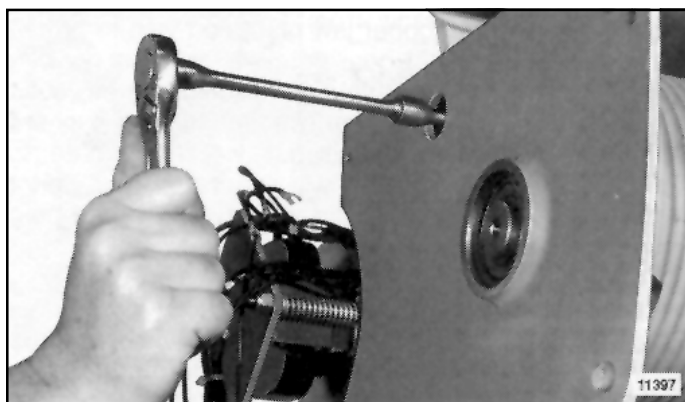

Figure 5-11. Removing Bolt Securing Gearcase to Frame
b. Remove four hex socket head bolts securing gearcase to cover. Three bolts are accessible from inside frame (Figure 2-2, Section II) and the fourth is accessible from electrical end of frame thru special access hole using a socket hex key wrench with an extension (Figure 5-11). With bolts removed, pry assembled gearcase and motor from frame. Exercise caution so that gearcase and motor assembly does not fall as it comes free of frame. This disassembly operation is not recommended with hoist suspended. Drum will remain in frame and can be lifted from drum shaft. To remove shaft, remove internal retaining ring from bearing bore in frame.